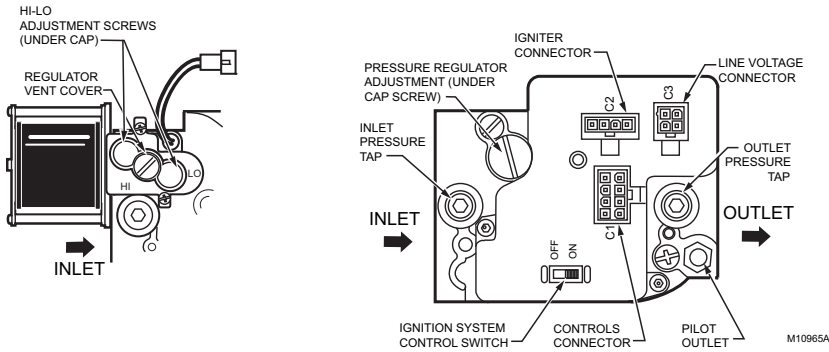
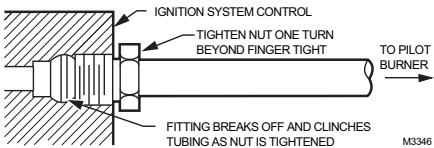

Fig. 5. Top view of ignition system control.
Fig. 6. Always use new compression fitting.
3. Unscrew the brass compression fitting from the pilot outlet (Fig. 5). Slip the fitting over the tubing and slide out of the way. See Fig. 6.
1. Remove pilot adjustment cover screw. See Fig. 5.
3. With main burner operating, check the ignition system control flow rate using the meter clocking method or check pressure using a manometer connected to the outlet pressure tap on the ignition system control. See Fig. 5.
- b. Using a screwdriver, turn the inner adjustment screw (Fig. 5) clockwise to increase or counterclockwise to decrease the gas pressure to the burner.
4. With main burner operating, check the ignition system control flow rate using the meter clocking method or check pressure using a manometer connected to the outlet pressure tap on the ignition system control. See Fig. 5.
- a. Remove the pressure regulator adjustment cap (Fig. 5).